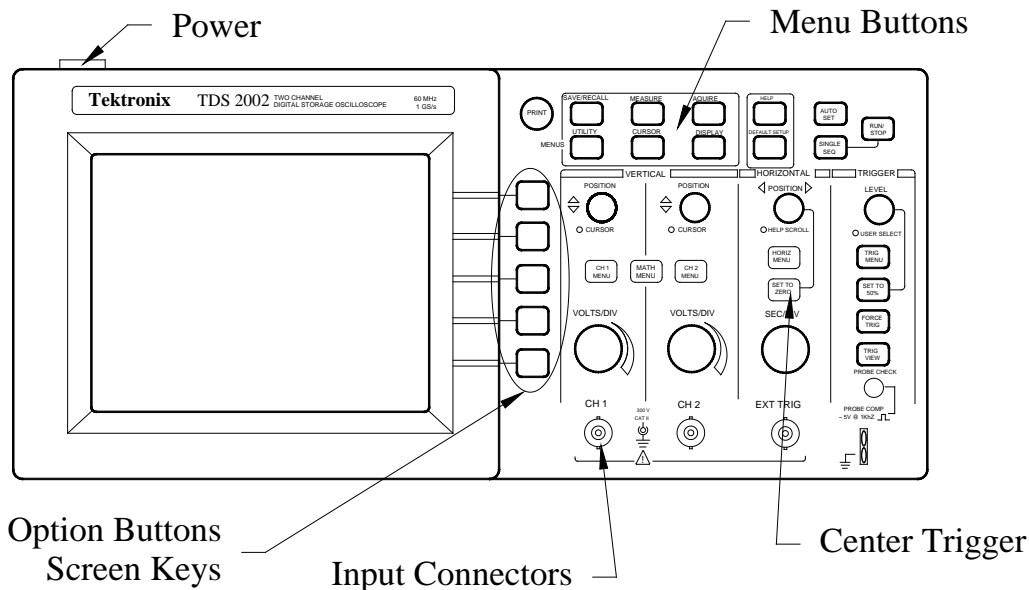
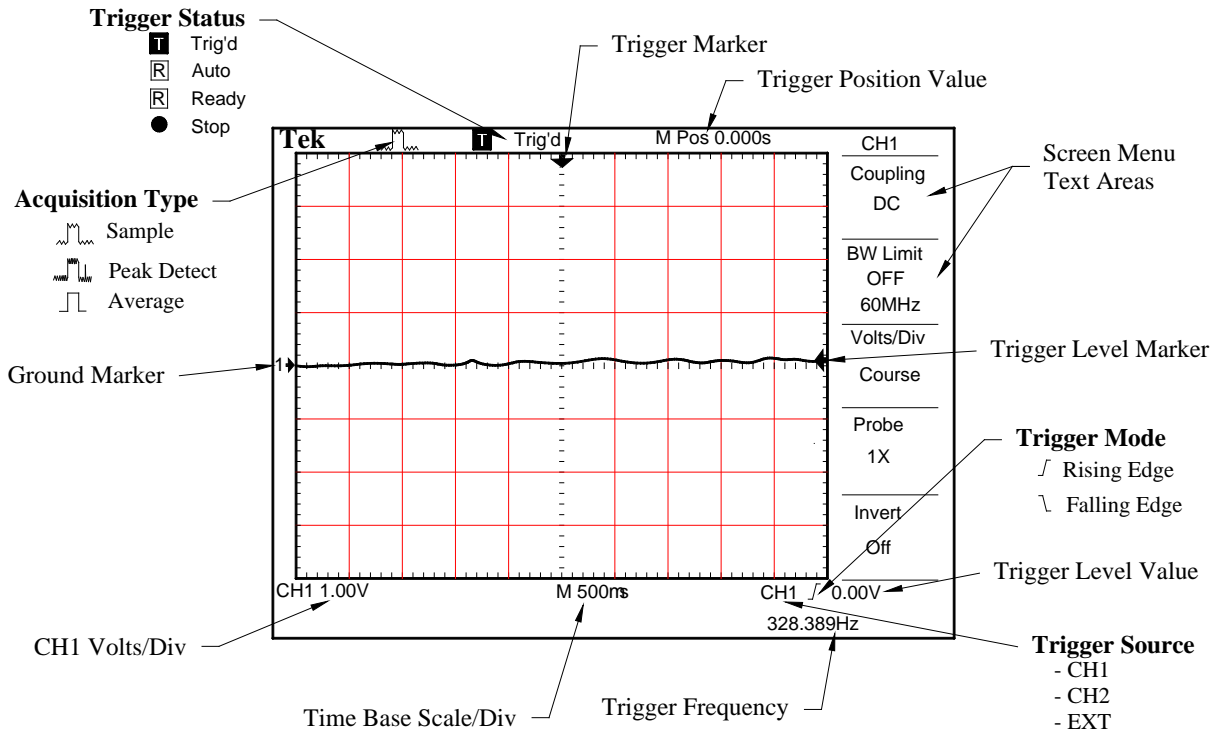
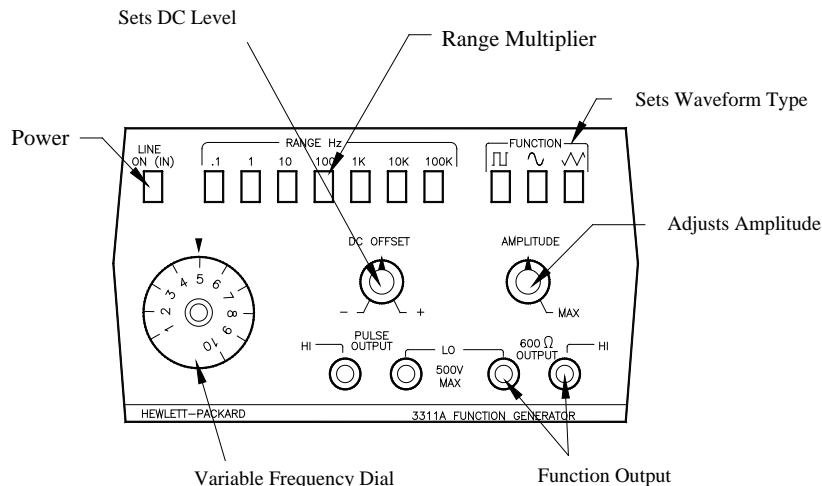
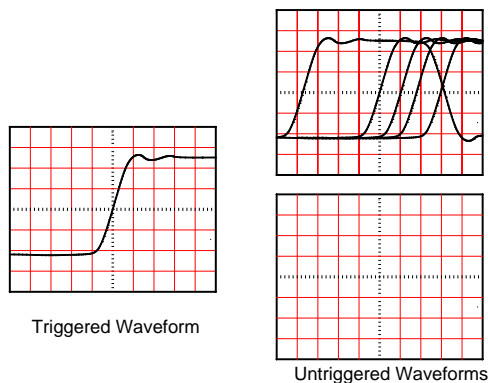

Figure 3 Diagram of the TDS 2002 digital oscilloscope you will use today.
Figure 4 Default display screen with the CH1 Menu turned on.
Figure 5 Drawing of the Hewlett-Packard function generator showing the function of controls.
Figure 6 Triggered and untriggered waveforms.
1) Push down the power button which is located on the upper left side of the oscilloscope. A screen will appear asking which language you prefer, just wait a minute and this menu will disappear. The oscilloscope remembers the state it was last left in and will start upon in that mode. Press the **DEFAULT/SETUP** button in the upper right of the panel. Then press the yellow **CH1 Menu** button. You should see a screen that looks like Figure 3.
2) On the right hand side of the display screen are menu areas that are associated with **Option Buttons** or **Screen Keys** on the front panel of the oscilloscope. See Figure 3. Pressing the menu button will change the value associated with that button. Set the **Probe** value to 1X by pressing the menu button next to probe until the screen displays **1X**. Notice the **CH1 Volts/Div** should now be 100mV. Change the value of this to 1.00V by turning the **VOLTS/DIV** knob located under the **CH1** Menu button. See Figure 4. Make sure to set the Probe to 1X every time you turn on the oscilloscope.
3) Turn on the HP function generator. Adjust the **Variable Frequency Dial** to 5.0, press the **Range** button to 100 and the **Waveform Selection** to sine wave (~). Turn both **DC Offset** and the **Amplitude** dials so that the markers are straight up as shown in Figure 5. You should now have a sine wave displayed on the screen with about a $2V_{pp}$ amplitude and about 2.5 cycles showing on the screen. The waveform should be approximately vertically centered around the **CH1 Ground Marker** which is on the left side of the screen indicated with an arrow head and the number 1. (See Figure 4). Turn the **DC Offset** knob on the function generator clockwise (CW) so that the wave is moved up about three divisions. Observe the behavior of the wave on the display. The signal is no longer triggered properly. This is indicated in several ways. First the behavior of the wave form is not synchronized on the screen, it appears to drift left or right in an unstable manner as shown in Figure 6. Secondly, the **Trigger Status** (See Figure 4) is **Ready** for a trigger and it is triggering **Automatically**. Finally the Trigger Level Marker (the small left arrow on the right in Figure 4) is out of the amplitude range of the displayed waveform. Correct this condition by adjusting the Trigger **Level** knob located on the upper right side of the panel.